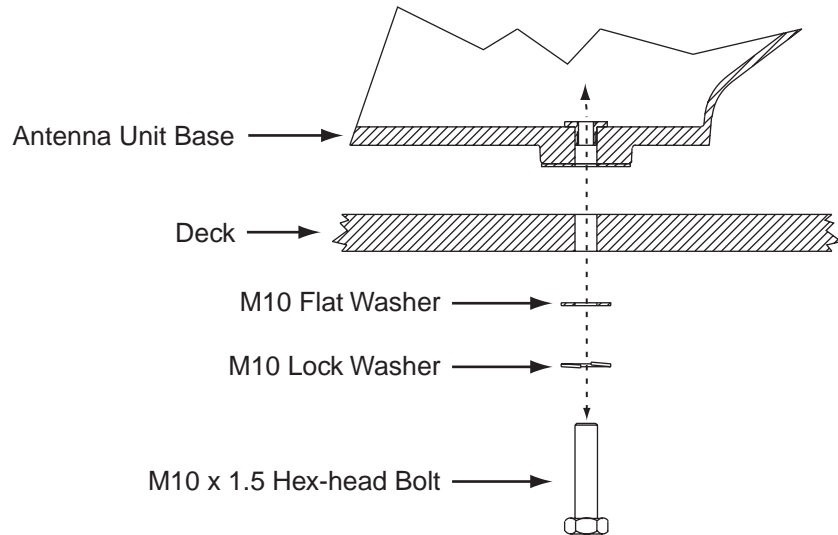

Figure 2-11
14. Place the rear logo plate over the cables, so that each cable exits the proper opening (see Figure 2-11). Using the six M4 screws supplied in the kitpack, attach the logo plate to the baseplate as shown in Figure 2-11.